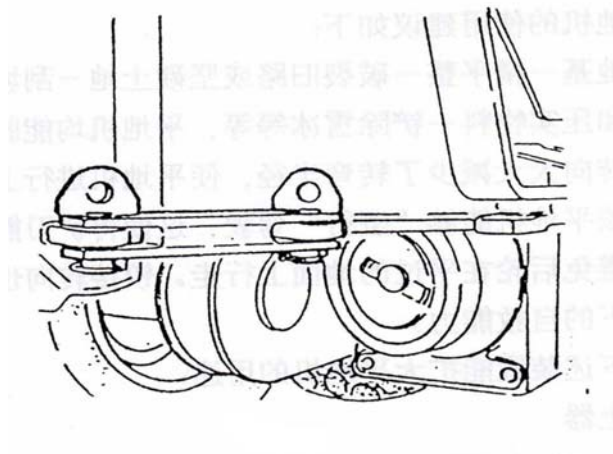

Fig.28
The articulating frame steering is controlled by a control lever (See 7.5.1). Before steering with the articulation, remove the safety lever (Fig.28) under articulated cylinders firstly.
- 4. Insert the safety lever and fix the articulated steering mechanism of grader(Fig.28).